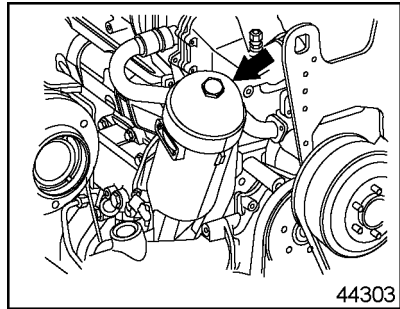

Figure 28 Oil Filter Cap
2. Using a 36-mm socket, unscrew the oil filter cap (see Figure 28).